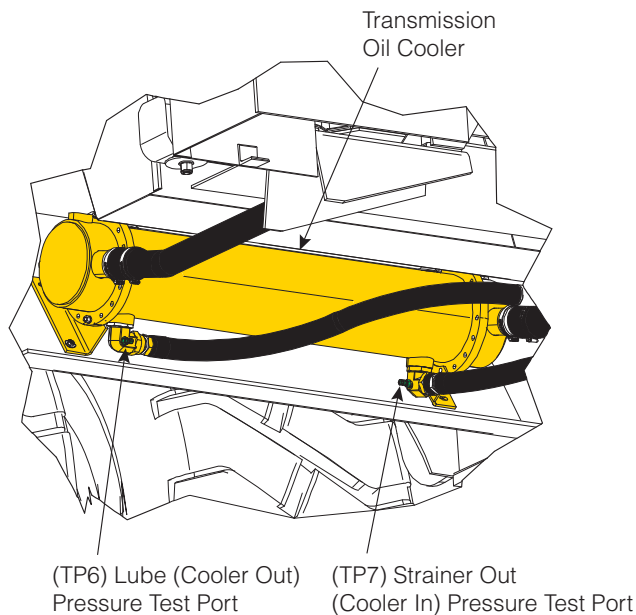

Figure 3 - Transmission Cooler
13. Engine OFF, remove gauge and install gauge at cooler in TP7 (see Figure 3).
15. Engine OFF, remove gauge and install gauge at cooler out TP6 (see Figure 3).